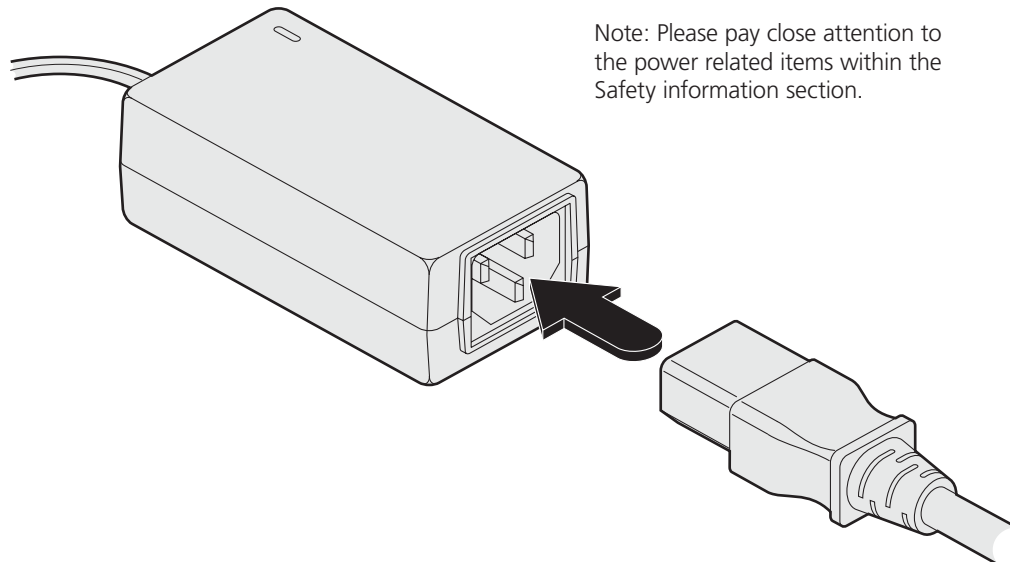

Figure 3-8. Connecting the power cord to the adapter
- 2 Insert the IEC connector of the separate power cord into the corresponding socket of the power adapter as shown in Figure 3-8: